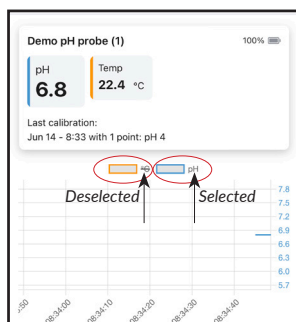

Figure 4
- Choose the parameters you want to visualize in the graph by clicking the **°F/pH** just above the graph (Figure 4)